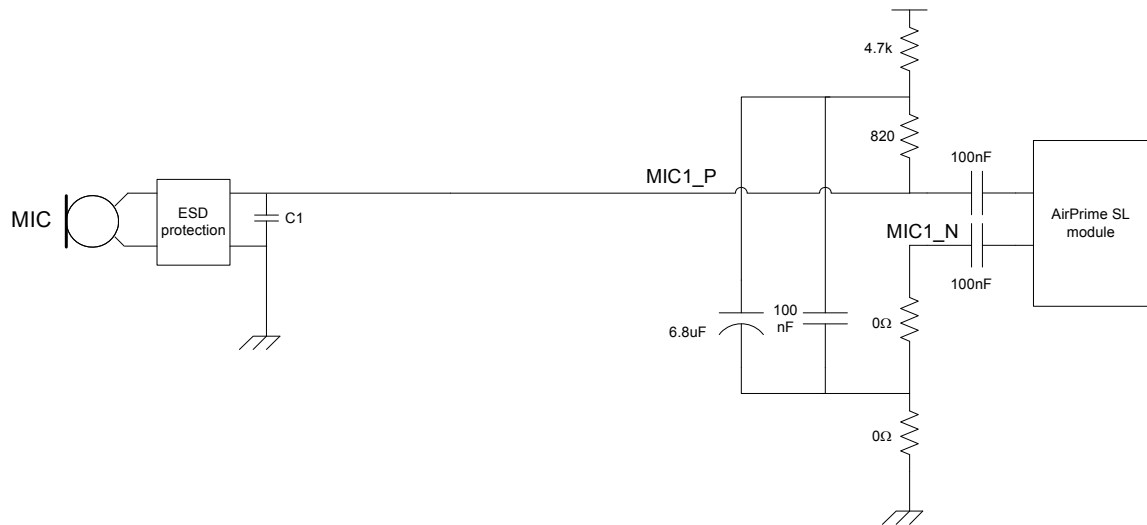

Figure 4-8: Example - MIC single-ended connection without an LC filter
- LC filter (L1 and C2) is recommended (but not mandatory) to eliminate TDMA noise. If no filter is used, capacitor C2 must be removed and the coil replaced by 0Ω resistors resulting in an equivalent circuit as shown in Figure 4-8 on page 59.